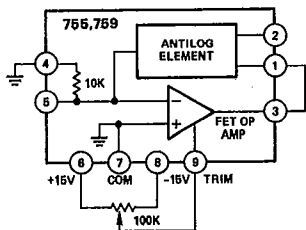

Figure 3. Trimming  $E_{OS}$  in Log Mode
**Trimming  $E_{OS}$**  — The amplifier's offset voltage,  $E_{OS}$ , may be trimmed for improved accuracy with the models 755, 759 connected in its log circuit. To accomplish this, a  $100k\Omega$ , 10 turn pot is connected as shown in Figure 3. The input terminal, Pin 4, is connected to ground. Under these conditions the output voltage is: